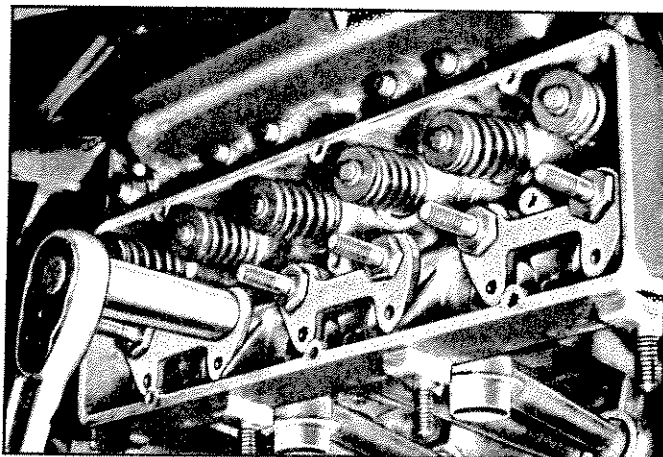

Fig. 32—Rocker Arm Studs and Push Rod Guides
- Remove rocker arm studs and push rod guides, then remove and discard rocker arm stud "O" ring seals (fig. 32).